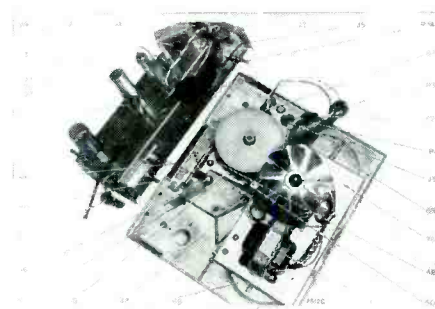

Fig. 4 — Another view of recorder and amplifier chassis showing locations of various components.
2. With all push-buttons in the up position the brake pads should clear the drums (item 69, Fig. 4) by approximately 1/8".